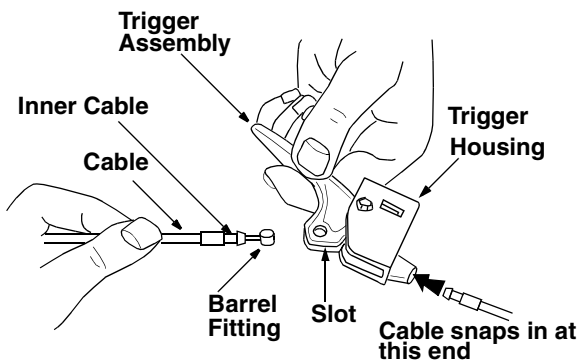

Figure 13
- Place the cable barrel fitting into the hole in the trigger. You can find the triggers and associated hardware in group H of the hardware pack. See Figure 13.
- Pull on the cable and rotate it around the bottom of the trigger, with the inner cable in the slot, until the cable end can be pushed into the trigger housing and snapped tight. See Figure 13.